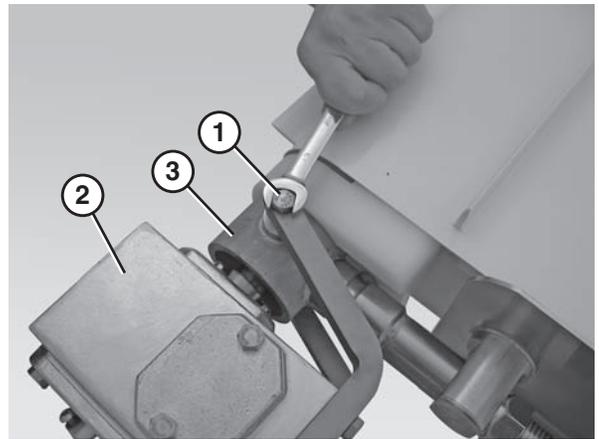

Figure 60
- Remove the bolts (**Figure 60, item 1**) that connect the gear reducer (**Figure 60, item 2**) to the motor support bracket (**Figure 60, item 3**) and slide the gear reducer off the drive spindle.